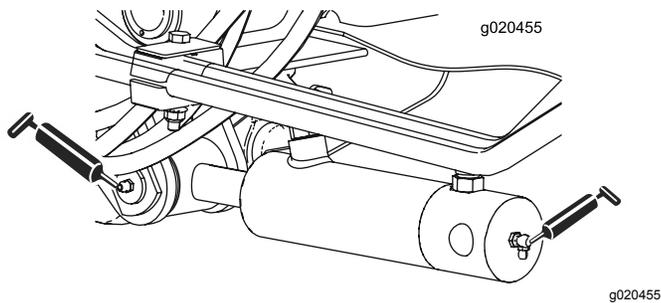

Figure 47
- 2 (each side) lift-arm-cylinder bushings (Figure 47)